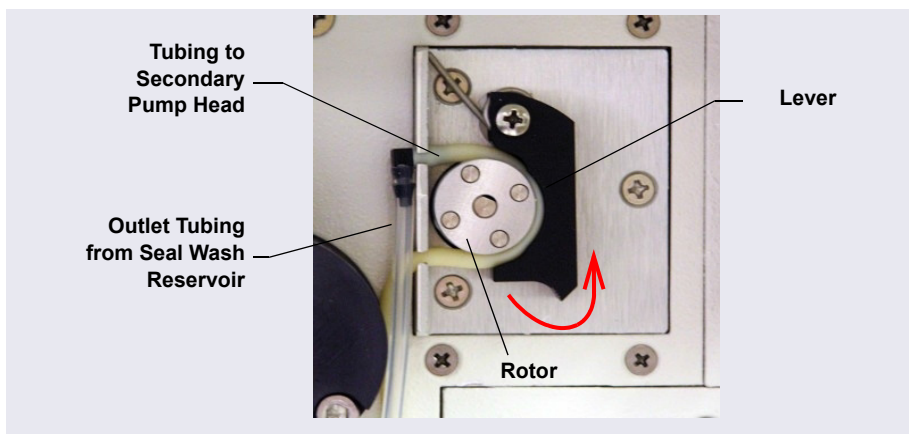

Figure 4-4. *Peristaltic Pump*
4. Check that the tubing is engaged in the peristaltic pump (see Figure 4-4). If it is not, lift the lever on the peristaltic pump up and to the right, insert the tubing neatly between the lever and the rotor, and release the lever to secure the tubing.